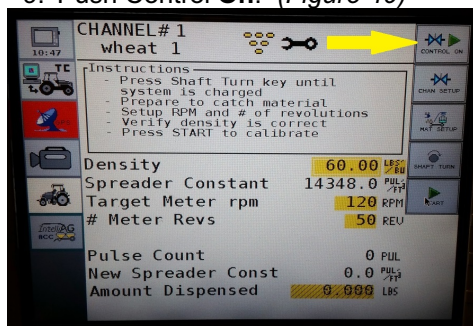

Figure 49
Step 9. Push **Control On**. (Figure 49)